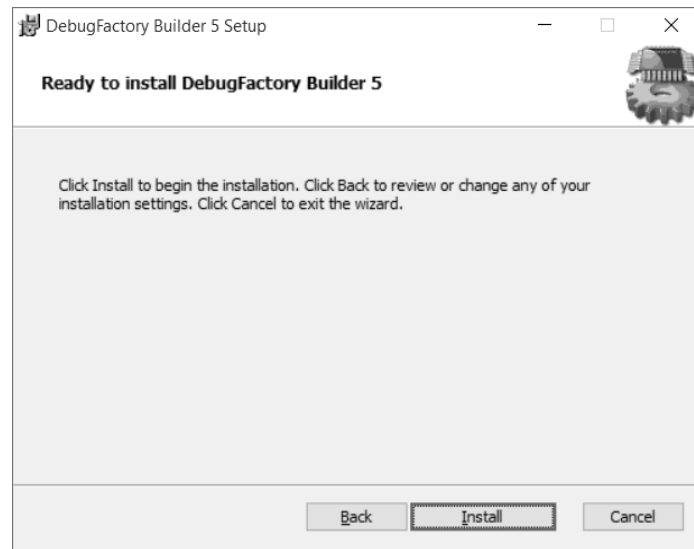

Figure 1.1.5 Start Installation
5. The dialog shown in Figure 1.1.5 appears. Click <Install>.